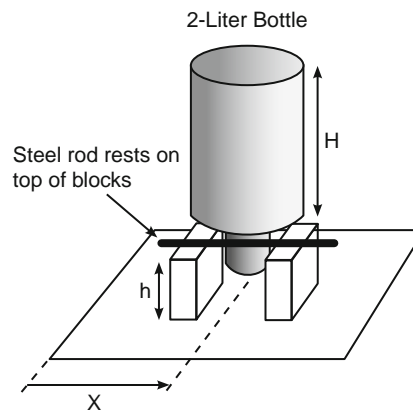

FIGURE 21.5 Experimental Setup for Establishing Key Dimensions and Reducing Risk
The experimental setup in Figure 21.5 can be used to address each of the first four sources of risk just listed. The last item in the list is best handled by computing the overall gear ratio using Equation (21.5).
1. The control variable is H (refer to Figure 21.5). Put 10 golf balls into the bottle and measure the minimum H required to hold 10 balls.